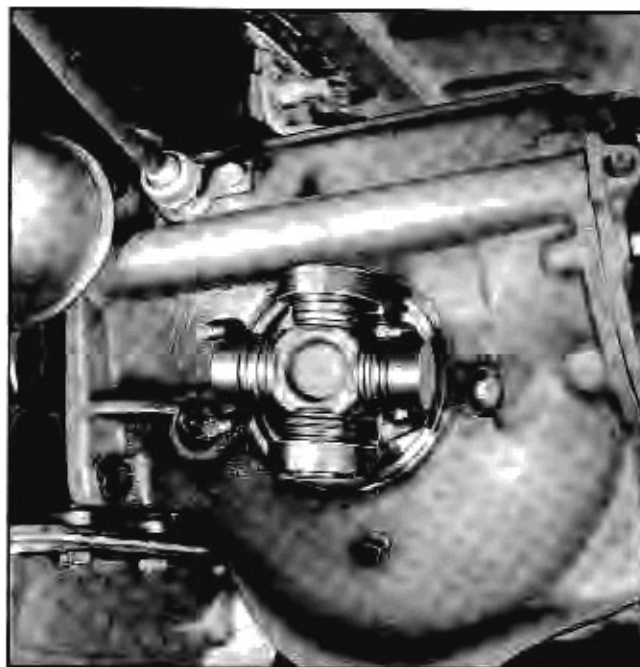

Fig. 3-36 U-Bolts Installed
4. Install U-Bolts (Fig. 3-36).